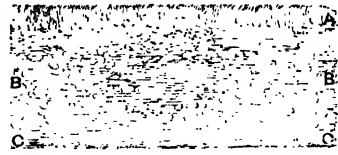
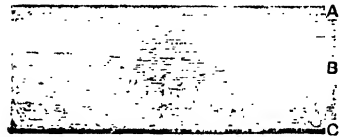
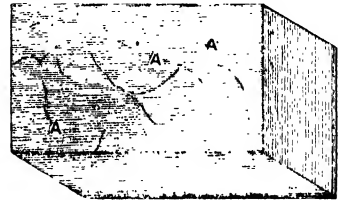

Fig. 420. Section of Inferior Leather.
Fig. 421.—Section of Superior Leather.
Fig. 422.—Flesh Side of Leather.
**Boot Leather.**—To judge a piece of good leather that will stand hard wear, first be sure that it is English. Foreign leather, English tanned, may wear very well. The grain or face of the leather should be a nice pale nut-brown, and, if properly made, quite smooth. To a novice, almost any piece of leather seems good until it is worn, and so long as it feels hard or will not readily bend between the two hands he does not know how to recognise faults. If the instructions given below are followed, the good can be picked out from the bad almost at a glance. Fig. 420 is a piece of leather cut straight through; A is the grain (epidermis), B the portion (dermis) for wear, while C is the side which comes off the animal, and is termed the flesh side. Fig. 421 is a similar piece, A, B, and C denoting the same portions, the difference between the two being that Fig. 420 is a bad piece of leather, while Fig. 421 shows a good piece. Now, in buying a pair of half-soles, look at the edges. If the grain is coarse and deep, as A (Fig. 420), do not take them. If the portion at B is streaky, loose, or long-grained in a direction from B to B, reject it, and do the same thing if there is a layer of any matter on the flesh side, as at C, for all these are bad properties. To be good, the flesh side should be well fleshed, and should have a smooth mottled or dull brown surface, as Fig. 422, and if any veins are seen on it, as A, A, A, it is a sign that it has been well fleshed, otherwise they could not be seen. It should smell a little sour to be pure oak-tanned, and when cut with a good sharp knife the portion cut should be somewhat polished by the operation. If the thumb-nail is drawn down the edge of the grain, from A to A (Fig. 420), it will be found to be almost like a saw, and unyielding; but if passed over the same place at Fig. 421 it will feel to the touch like velvet. It will also be seen by this illustration that